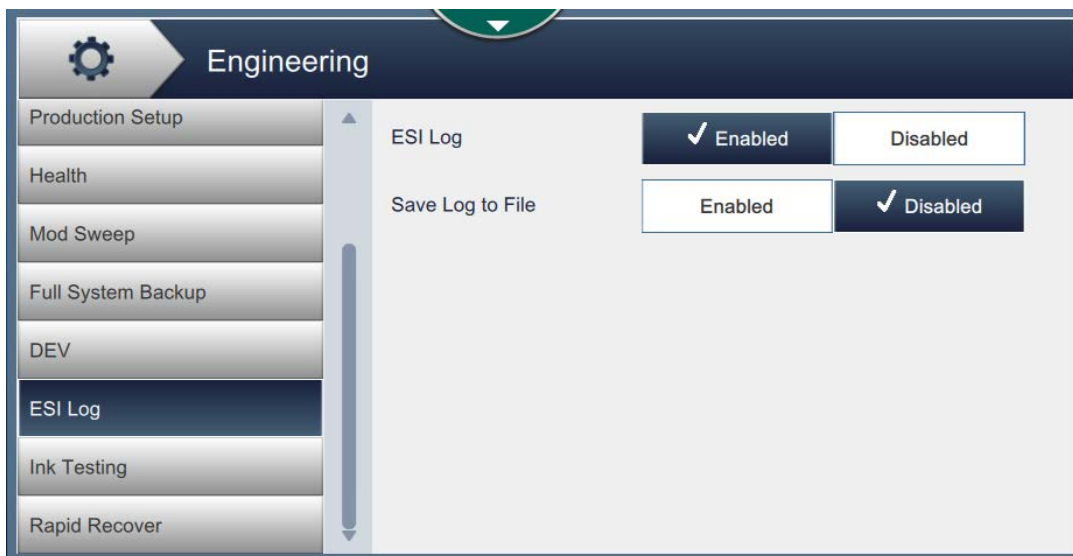

Figure 7-33: Enable ESI Log
7. Touch *Enabled* button to enable ESI Log as shown in Figure 7-33.
Note: Ensure that the jet is running and the printer status is OFFLINE on the status bar as shown in Figure 7-33.